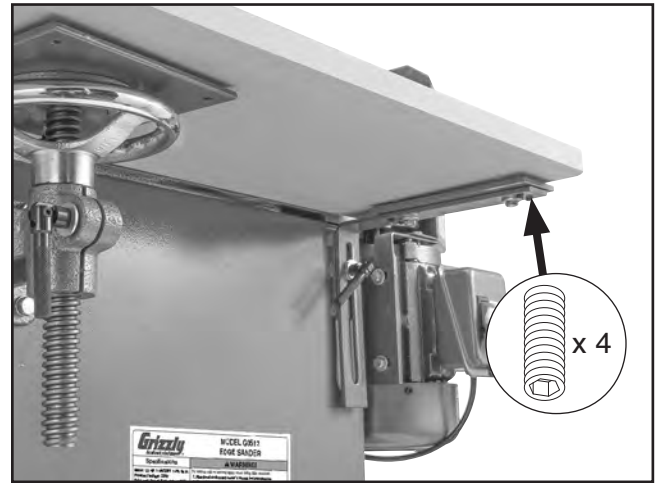

Figure 28. Location of adjustment L-bracket set screws.
- Adjust set screws on adjustment L-bracket until table is square to platen (see **Figure 28**).